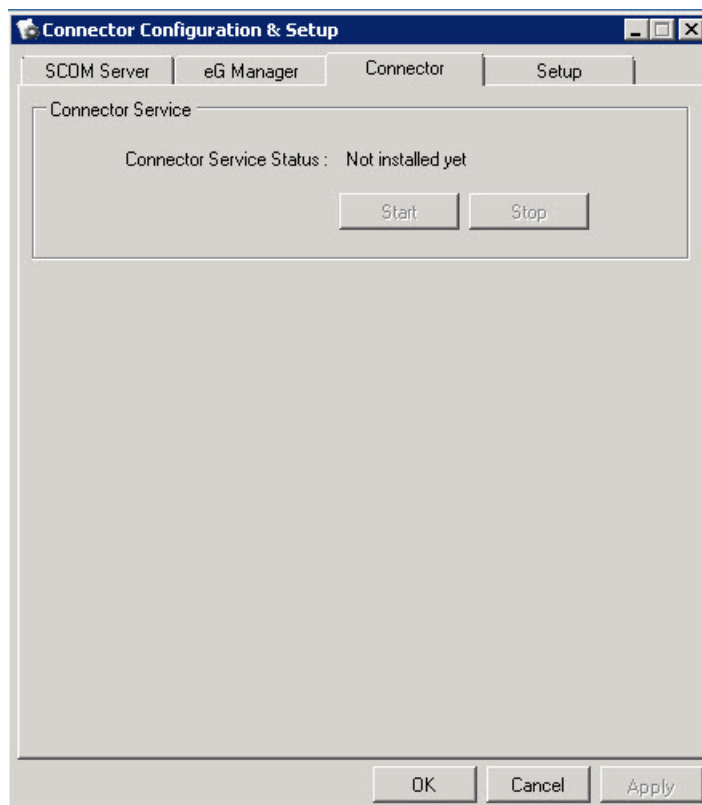
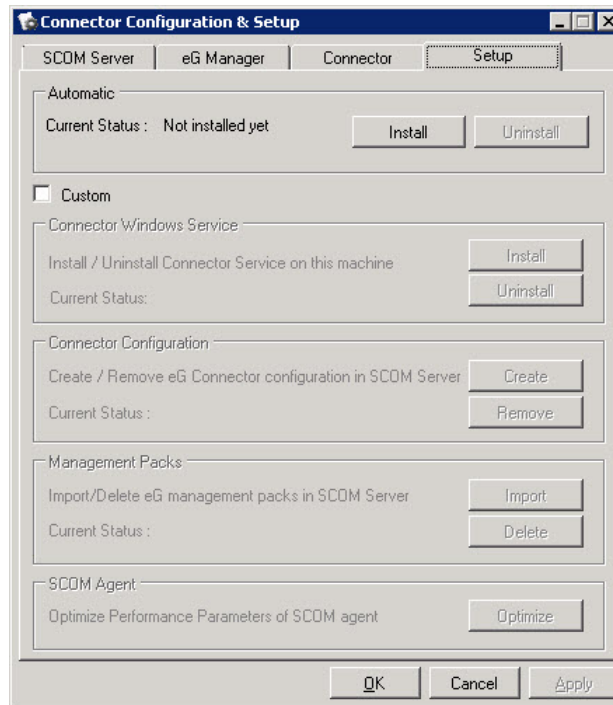

Figure 3.12: The Connector tab page
Figure 3.13: The Setup tab
8. Click on the **Connector Service** tab page. If the connector service is yet to be installed, then the **Start** and **Stop** buttons in Figure 3.12 will be disabled. Also, the **Connector Service Status** will be *Not installed* (as shown by Figure 3.12). If the connector has been installed but is yet to be started, then the **Start** button alone will be enabled. You can click on the **Start** button to start the service and the **Stop** button to stop the service.
9. Now, click on the **Setup** tab in Figure 3.12 to execute the setup tasks. The **Setup** tab provides 2 options. Automatic setup will execute all the required tasks in a single action. To perform this auto setup, click on the **Install** button in the **Automatic** section of Figure 3.13. You can uninstall the connector at any point in time, by simply clicking the **Uninstall** button in the **Automatic** section.